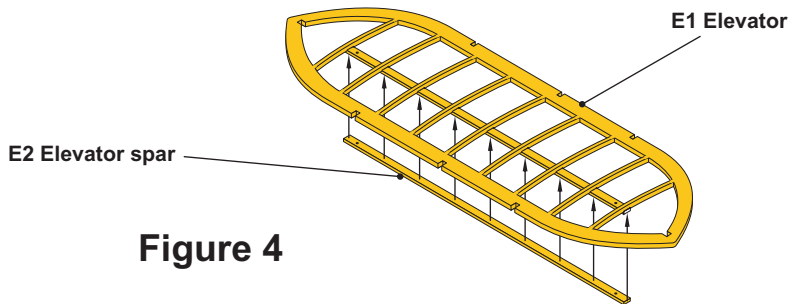

Figure 4
(2) Twist each rib through 90 degrees.
- 4 Assemble the rudders (Refer to Figure 4)
- A Fold the rudder structure (Refer to Figure 4, Detail A)
- 5 Assemble the Elevators (Refer to Figure 4)
- (1) Turn the ribs of the first elevator through 90 degrees.